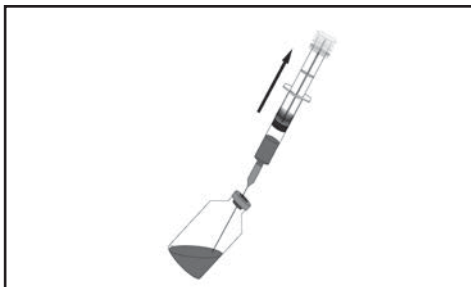

Figure 5a.
- 2.1 Transfer required amount of drug from its container to the loading syringe by drawing solution into loading syringe via the attached sterile needle (Figure 5a). Leave a small air bubble (1 ml or less) in the loading syringe for better mixing.